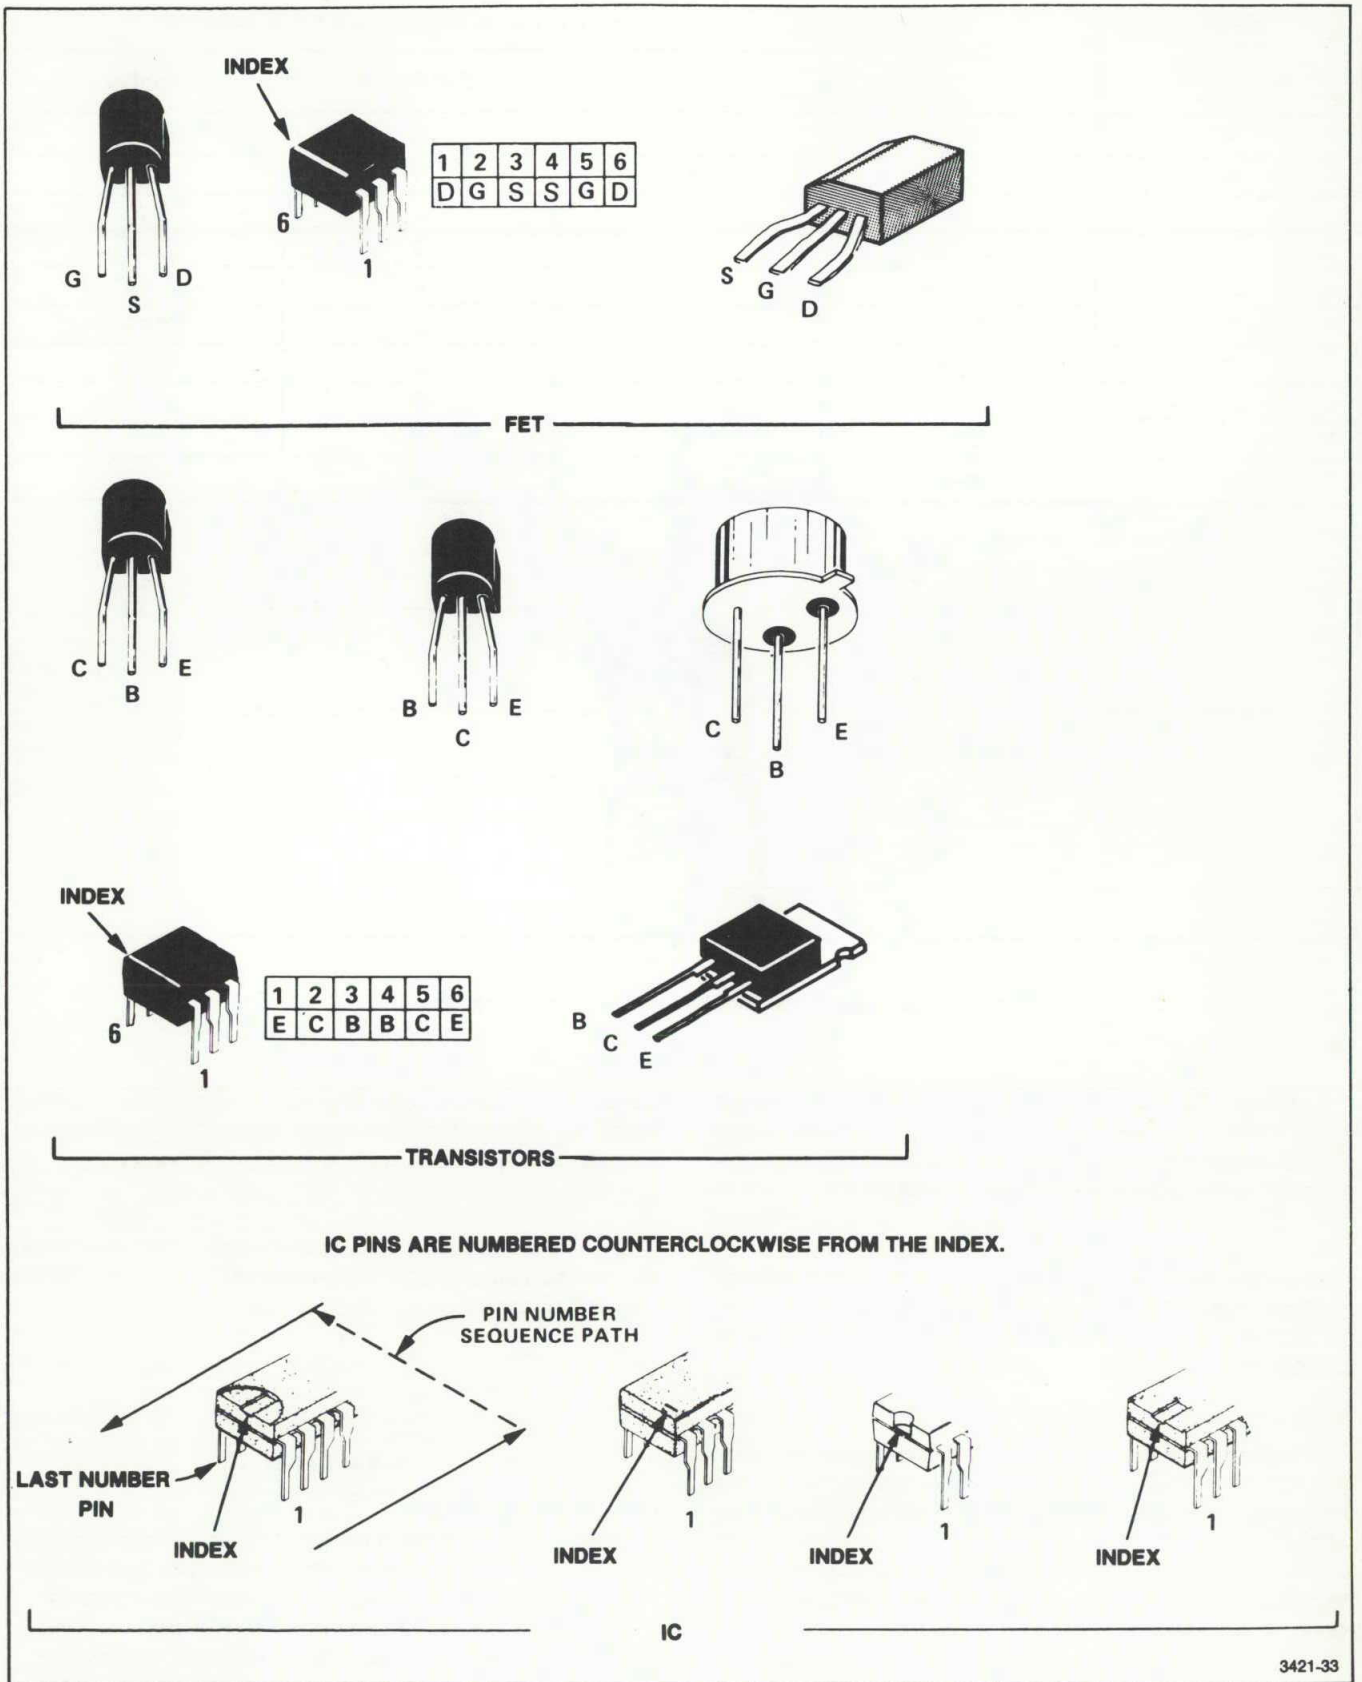

Fig. 4-7. Semiconductor Lead Configurations.
**Transistor and Integrated Circuit Lead configurations.** Fig 4-7 illustrates the lead configurations for the socket-mounted transistors, field effect transistors (FET's) and Integrated Circuits (IC's) used in the instrument.
Replacement semiconductors should be of the original type or a direct replacement. Fig. 4-7 shows the lead configuration of the semiconductors used in this instrument. Some plastic-cased transistors have lead configurations that do not agree with those shown here. If a replacement transistor is made by a different manufacturer than the original, check the manufacturer's basing diagram for correct basing. All transistor sockets in this instrument are wired for the standard basing as used for metal-cased transistors. Power transistors that are mounted on the chassis use silicone grease to increase heat transfer. Replace the silicone grease when replacing these transistors.